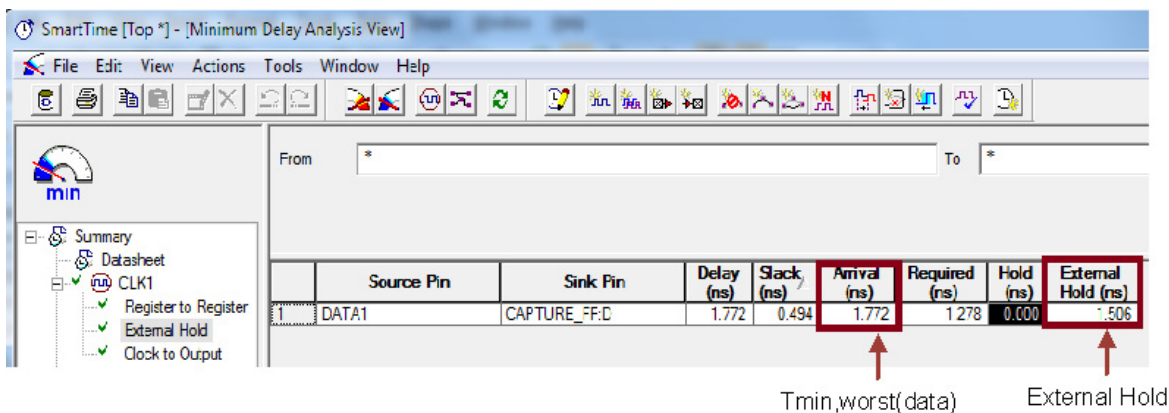

Figure 14 • SmartTime Setting for Worst-Case Hold Analysis
2. In the Maximum Delay Analysis view, get the external setup time, as shown in the Figure 14.